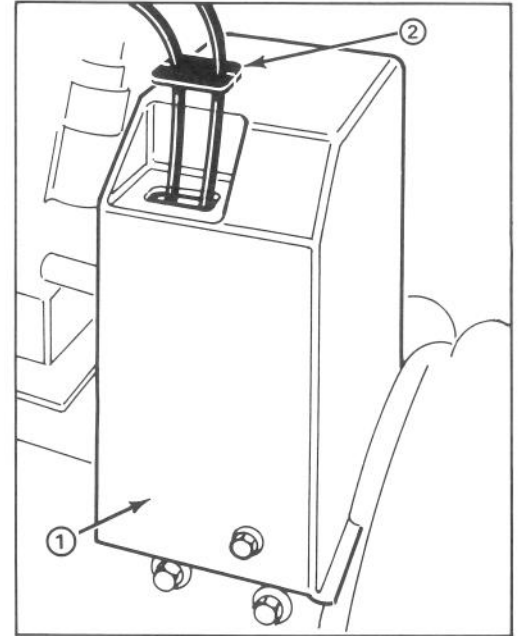

Figure 3
8. Mount upper belt cover to engine frame with (3) 1/4-20 x 1/2" lg. flange head capscrews (Fig. 3).